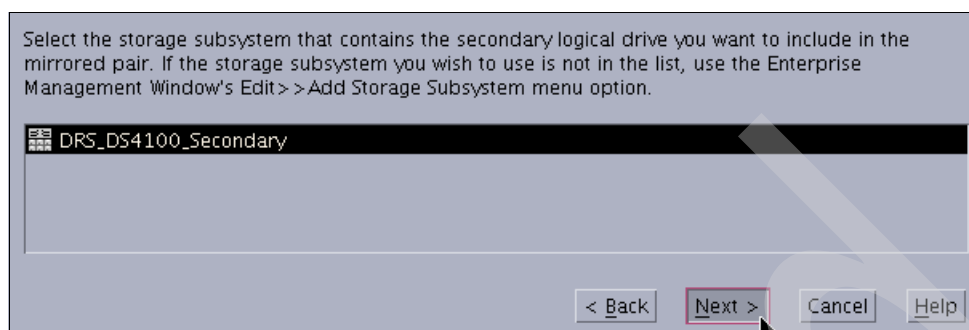

Figure 13-28 Create Remote Mirror: Select Storage Subsystem
- The next window displayed is the Create Remote Mirror Wizard: Selecting a storage subsystem for the Secondary Logical Drive (Figure 13-28).